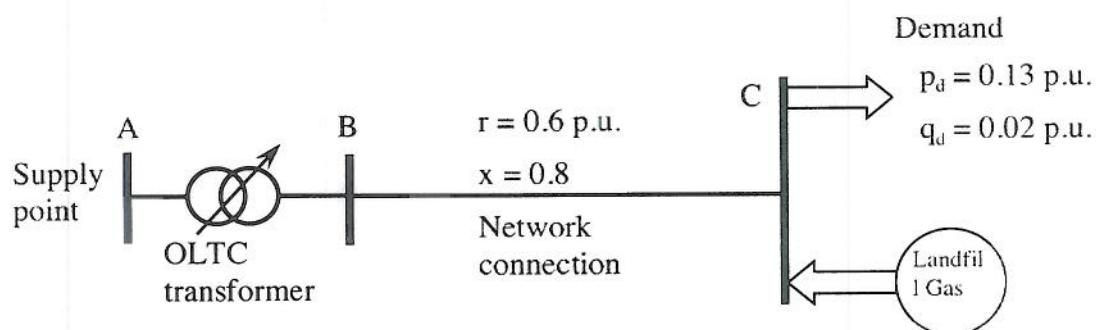

Figure 5, A landfill gas generator on a weak distribution feeder.
- c) A landfill gas plant is to be connected to a weak distribution feeder shown in Figure 5. The demand varies between the maximum indicated in Figure 5 and a minimum that is 10% of the maximum.
- Estimate the amount of landfill gas generation that could connect to the network if the allowable voltage variation in the network is +/- 5%. The On Load Tap Changing (OLTC) transformer is set to maintain the voltage at busbar B in figure 5 at 1.02 p.u. [6]